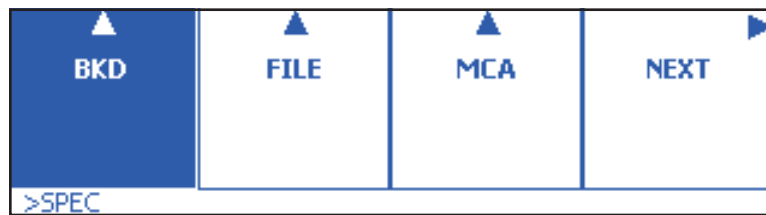

Figure 12 The Spectroscopy Menu
- The upward pointing triangle ▲ on the **SPEC** soft button (Figure 10 indicates that there's another menu level associated with that button (Figure 12).